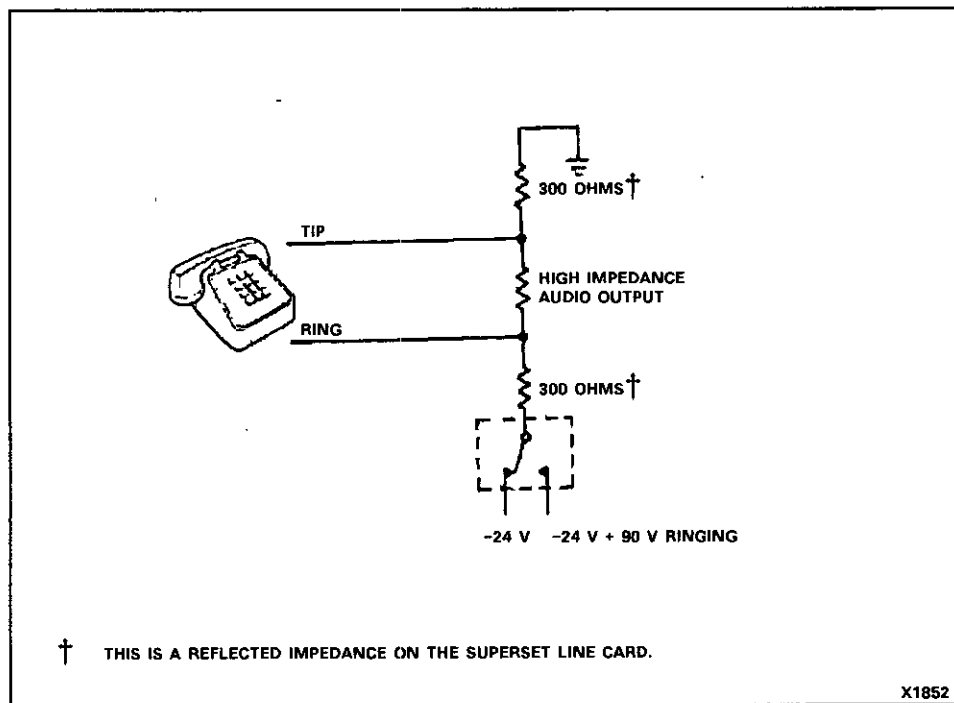

Figure 2-3 Line Interface
2.19 The interface between the SX-20 system and the stations is provided by the SLIC circuit. The terminating impedance is 600 ohms (refer to Figure 2-3). A supply of -24 Vdc or 90 Vac (ringing) can feed the line from the ring lead. The high impedance audio circuits are in parallel with the 600 ohm termination, but have no effect on the impedance.
2.20 The interface between the SX-20 system and stations or the SUPERSET sets are provided by the HYPERSLIC circuit. The reflected terminating impedance is 600 ohms (refer to Figure 2-3). A supply of -24 V or 90 Vac (ringing) can feed the line from the ring lead. The high impedance audio circuits are in parallel with the reflected 600 ohm termination, but have no effect on the impedance.